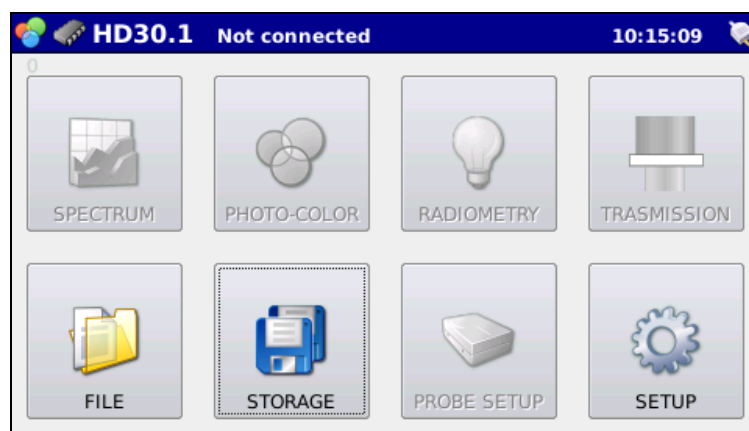

Fig. 4.1: STORAGE and FILE buttons allow measurements to be monitored and recalled.
The acquired measurements can be handled/displayed using the main screen (fig. 4.1)
4.4 Press  to return to the main screen (Fig. 4.1).
4.5 Press  in the main screen to display stored measurements (fig. 4.1). Pressing the button will open the fig. 4.11 window.